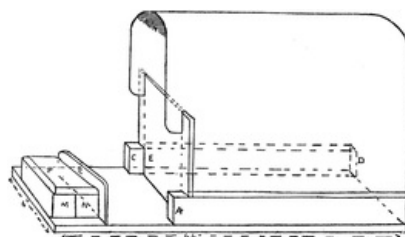
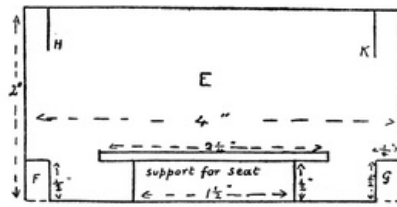
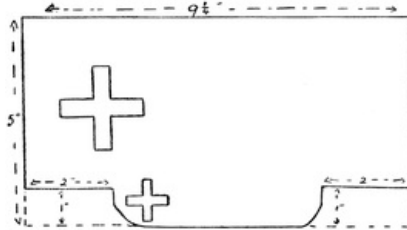

FIG. 242
FIG. 243
FIG. 244
**Red Cross Motor.** Begin with a piece of wood  $6\frac{1}{2}'' \times 4'' \times \frac{1}{8}''$ . Glue and nail to this two pieces of stripwood,  $\frac{1}{2}'' \times \frac{1}{4}'' \times 4\frac{1}{4}''$ , A B and C D in Fig. 242.
Next cut out a piece of wood 4 inches by 2 inches (a piece of cigar-box will do for this, or a piece of stout cardboard)—E in Figs. 242 and 243.
Saw out the corners F and G, so that the piece of wood E will fit between the strips C D and A B. Saw slits at H and K to hold the cardboard hood. Glue E in position as in Fig. 242. A seat must be placed in front of E; it should measure about 2¼ inches by 5/8 inch, and may be glued to a piece of stripwood, ½" × ¼" × 1½", which is glued to E as in Fig. 243.
The bonnet is made of two pieces of stripwood, M and N, ½" × ½" × 2½"; these are glued together and glued on as in Fig. 242. A piece of wood, P, well smoothed and with edges rounded, is glued over M and N. R is a piece of wood 4 inches by 1 inch, with the corners cut off or rounded. The hood is made of a piece of thin cardboard, 5 inches by 9¼ inches, cut as in Fig. 244.
The hood is glued inside the strips of wood A B and C D in Fig. 242, and fits into the slits H and K in E.